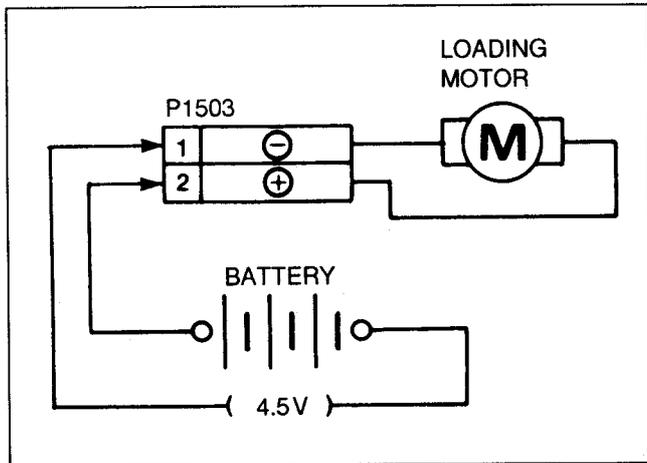

Fig. S7
- 1) Connect the Battery (Manganese-Type R6 (AA) 3pcs./ +4.5V) to P1503 as shown in Fig. S7.